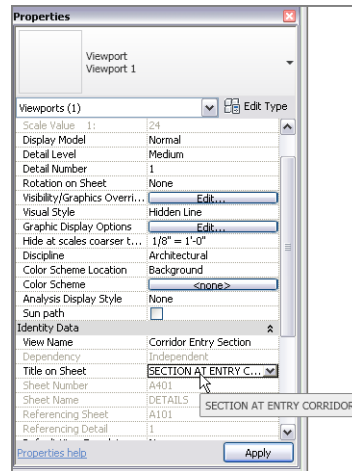

FIGURE 14.16: You can make the title on the sheet different from the view name.
3. In the Properties dialog, scroll down the list until you arrive at Title On Sheet, as shown in Figure 14.16.